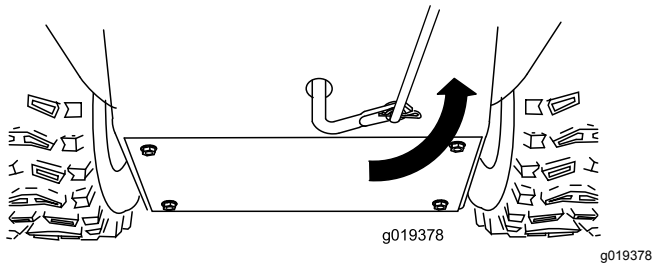

Figure 8
5. Rotate the lower-link arm fully upward (counterclockwise) as shown in Figure 8.